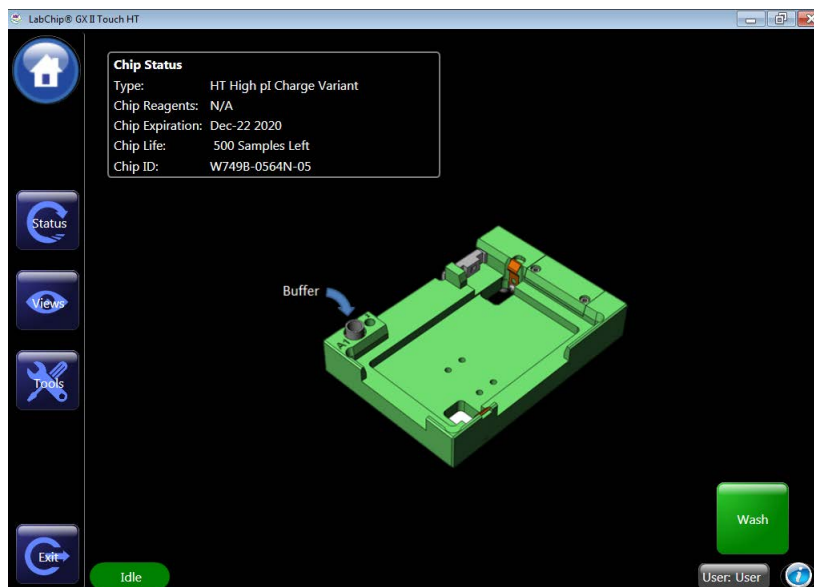

Figure 11. Wash Screen
- 7 Touch the **Wash** button on the **Wash** screen (see Figure 11).